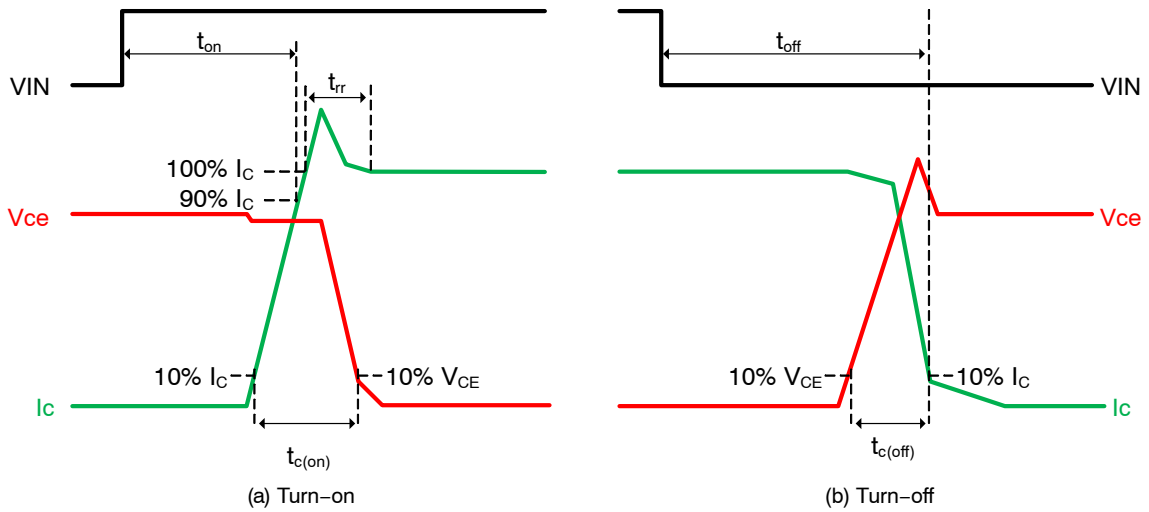
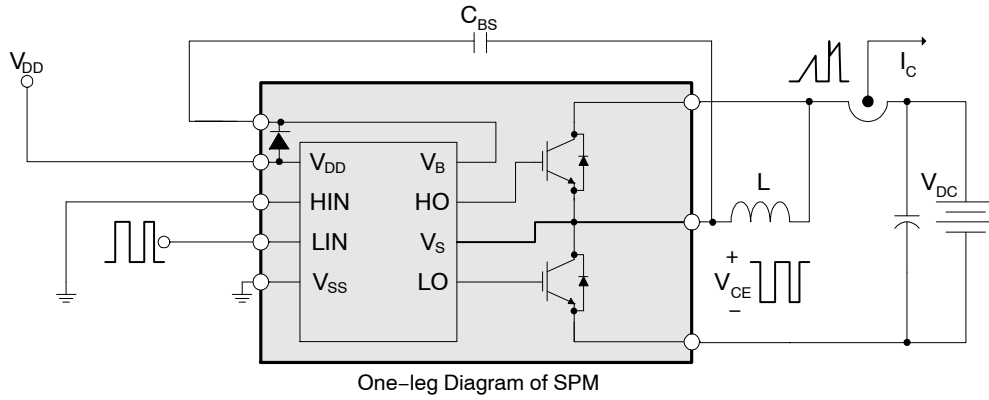

Figure 6. Switching Time Definitions
Figure 7. Switching and RBSOA (Single-pulse) Test Circuit (Low-side)
- t_{ON} and t_{OFF} include the propagation delay time of the internal driver IC. Listed values are measured at the laboratory test condition, and they can be different according to the field applications due to the effect of different printed circuit boards and wirings. Please see Figure 6 for the switching time definition with the switching test circuit of Figure 7.
- The peak current and voltage of each IGBT during the switching operation should be included in the Safe Operating Area (SOA). Please see Figure 7 for the RBSOA test circuit that is same as the switching test circuit.